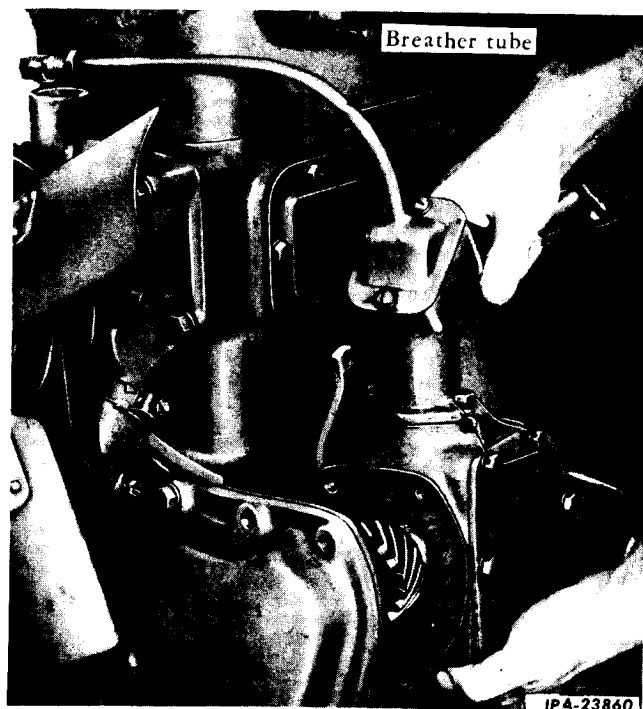

Fig. 5 - Removing Engine Governor (6 Series Shown).
3. Work the throttle shaft housing forward to the connecting rod housing until the throttle shaft is free of the carburetor. Remove the cap screws securing the governor housing to the front cover, and remove the assembly from the engine (Fig. 5).